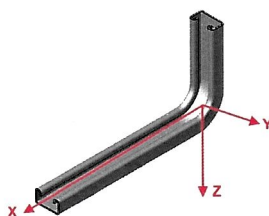

Figure B1.1. Coordinate system of force directions acting in the cantilevers MT-BR-30 300, MT-BR-30 300 OC, MT-BR-30 450 and MT-BR-30 450 OC
- For cantilevers MT-BR-30 300, MT-BR-30 300 OC, MT-BR-30 450 and MT-BR-30 450 OC the point of intersection of the axes X, Y, Z is located in the centroid position of the cross section of each arms of installation channel according to Figure B1.1.
Table C1: Characteristic resistance of the cantilevers MT-BR-30 300, MT-BR-30 300 OC, MT-BR-30 450, MT-BR-30 450 OC according to the coordinate system in figure B1.1